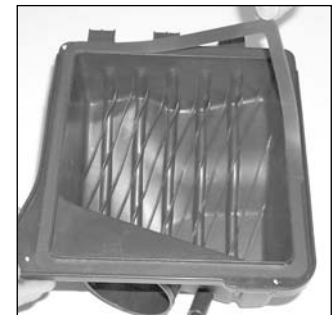

Fig. 3
8. Install the adhesive backed gasket into the channel on the airbox lid making sure that it is evenly spaced within the channel. (Fig. 3)